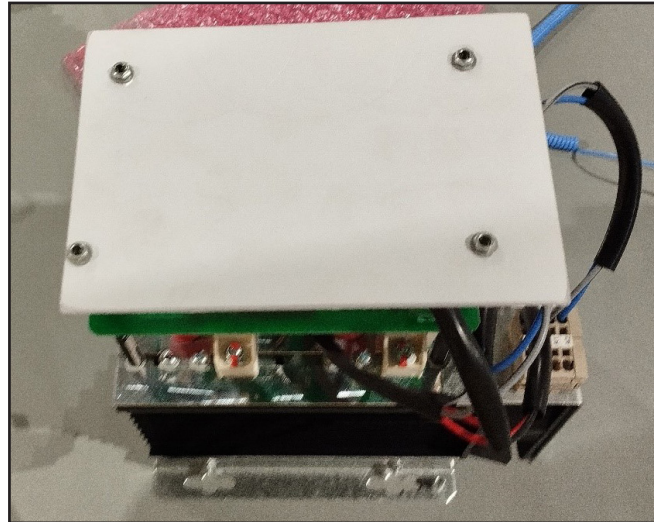

Figure 7: Step 7.
7.- Fit the 4 nuts and tighten to attach the polycarbonate board, **Figure 7**.